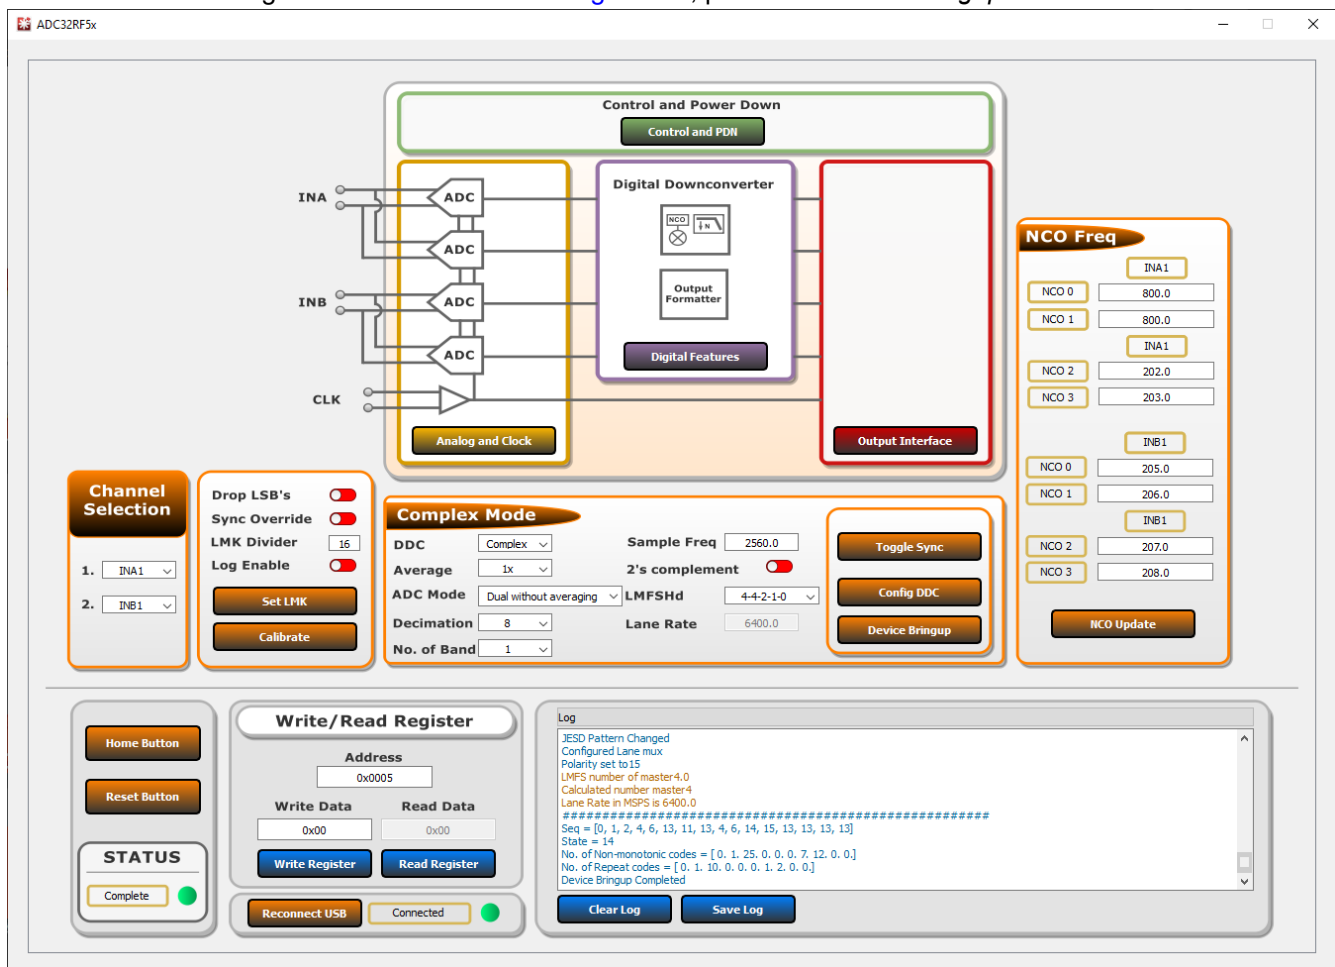

Figure 3-6. ADC32RF5xEVM GUI, 8x Complex Decimation, 800MHz NCO
6. Once these settings are verified and match Figure 3-6, press the *Device Bringup* button.